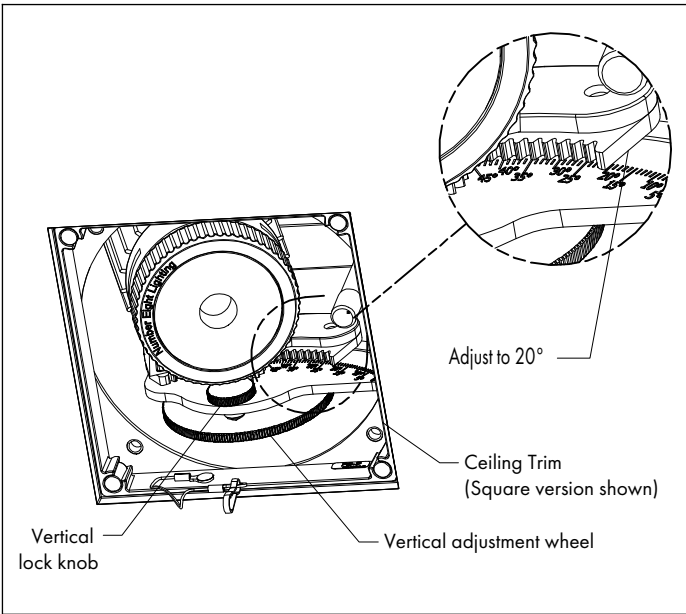

FIG 11.1 Adjust Vertical Aiming Angle
STEP 1 Unlock & adjust J Lamp Module to 20° vertical aiming angle for optimal wall wash performance - **FIG 11.1**.